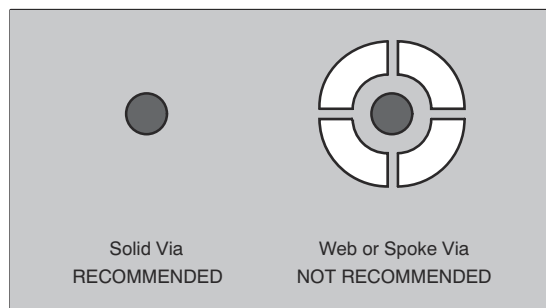

图 8-16. Via Connection Methods
6. When connecting these holes to the internal plane, do not use the typical web or spoke via connection methodology (as 图 8-16 shows). Web connections have a high thermal resistance connection that is useful for slowing heat transfer during soldering operations. This configuration makes the soldering of vias that have plane connections easier. However, in this application, low thermal resistance is desired for the most efficient heat transfer. Therefore, connect the holes under the PowerPAD integrated circuit package to the internal plane with a complete connection around the entire circumference of the plated through-hole.